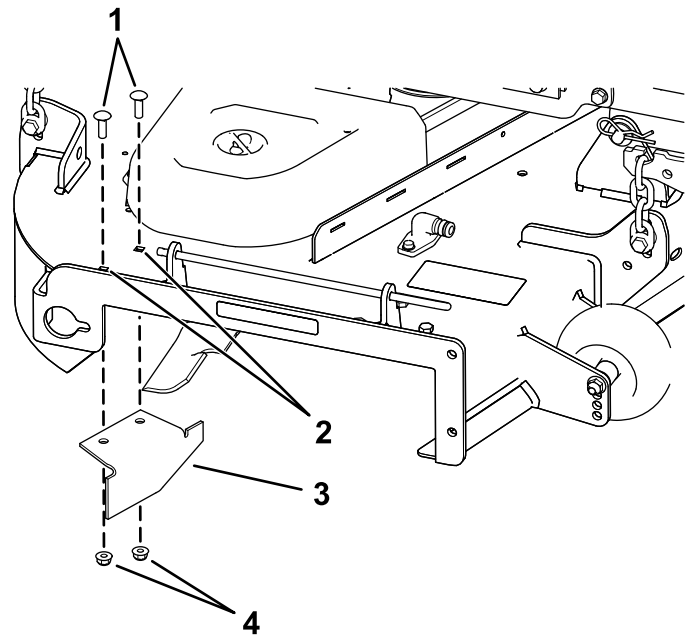

Figure 37
14. Locate the cutoff baffle in the loose parts bag, remove the fasteners at the rear holes of the discharge plate, and install the baffle at the side-discharge opening on the mower deck (Figure 37).